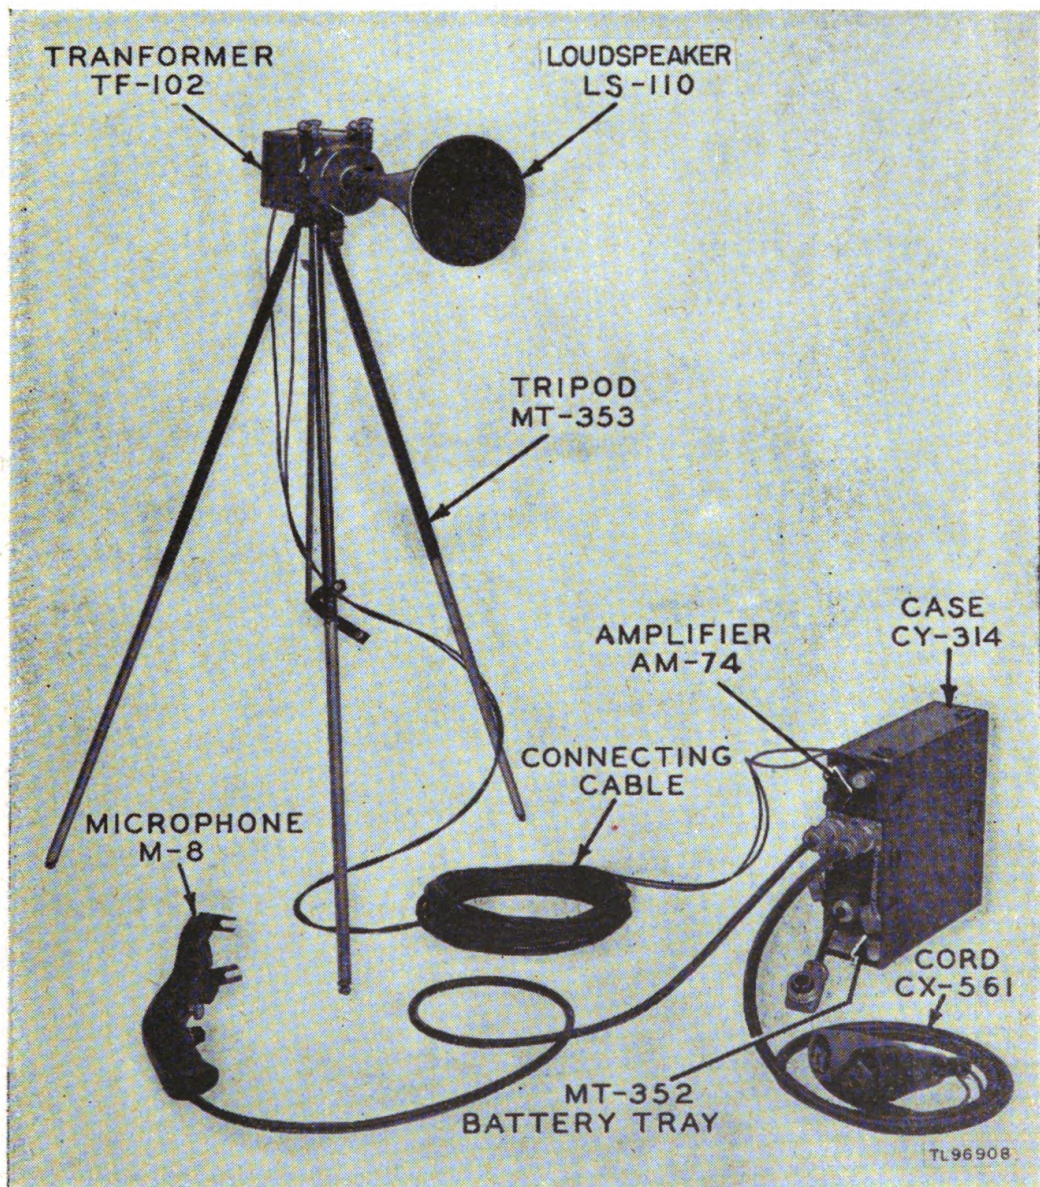

Figure 8. Public Address Set AN/PIQ-1 connected to use external power.
(1) *Using Outside Power Source (fig. 8).* If it is desirable to use an outside 6-volt, d-c source of power, connect the equipment in either of the two fundamental positions but attach Cord CX-561 to the connector on Amplifier AM-74 and fasten the battery clips to the terminals of the external power source.